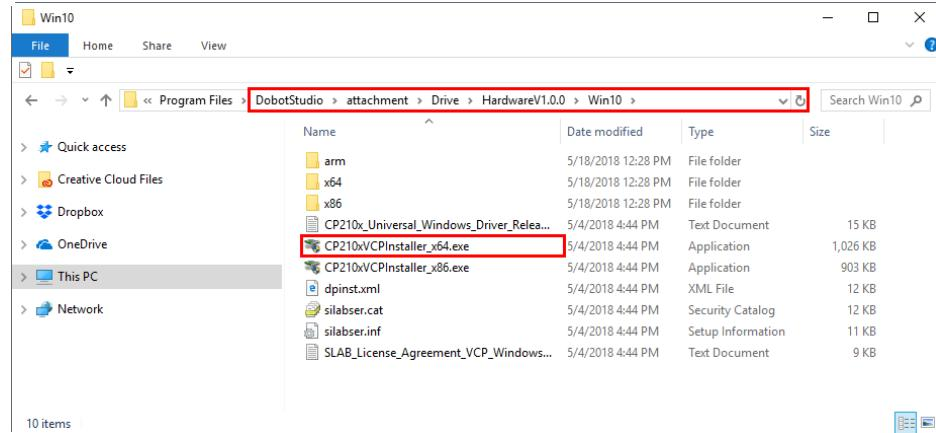

Figure 2.11 Install the 64-bit driver on a 64-bit Windows 10
- To reinstall the Dobot Magician driver after uninstalling it, install the driver corresponding to the Windows version in the directory **Installation Directory\DOBOTStudio\attachment\Drive\HardwareV1.0.0**. For example, install the 64-bit driver on a 64-bit Windows 10, as shown in Figure 2.11.